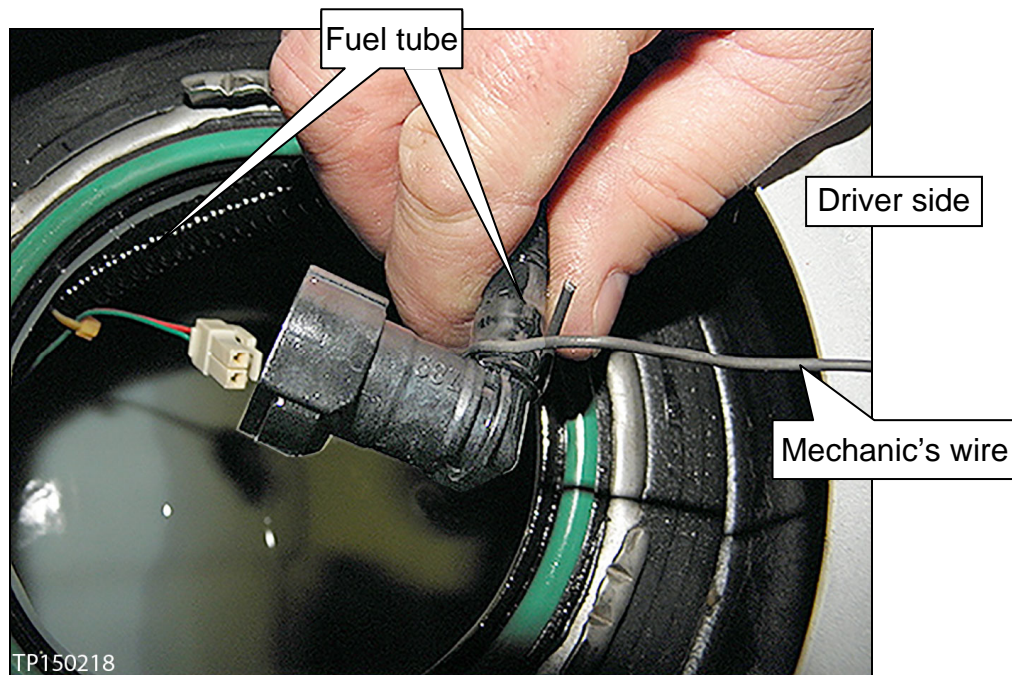

Figure 6
12. Securely attach a 40 inch (102 cm) length of “mechanic’s wire” to the end of the fuel tube (see Figure 6).